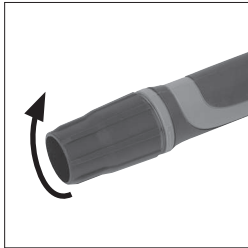

Fig. 1
- Loosen the sleeve nut. **(Fig. 1)**